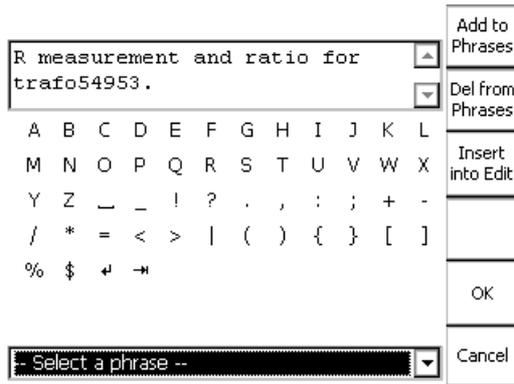

Figure 10-2: *CPC 100 String Editor* with focus on "Select a phrase"
- ▶ once the template phrase of your choice is highlighted, press **Insert into Edit**. The phrase is then automatically inserted into the upper entry field at the cursor position (refer to Figure 10-2).